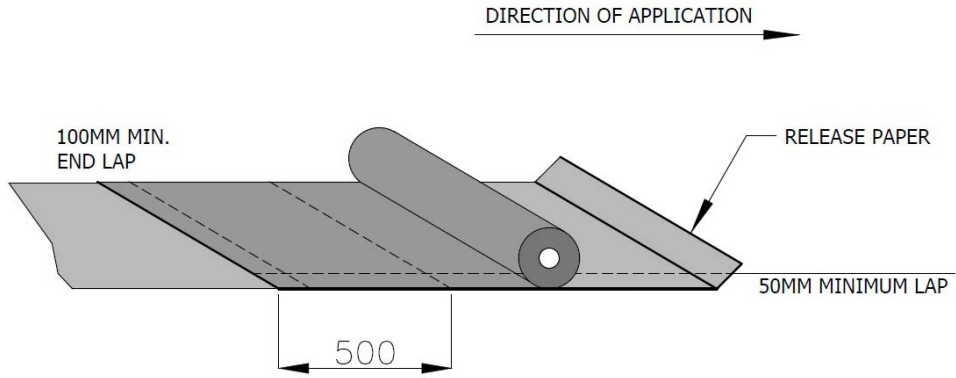

FIG. 3
- 3.4 Apply the membrane to the surface by aligning it with the line as necessary and bond the exposed self adhesive compound to the substrate using firm pressure, applied to the centre and smoothing towards the edges. (See fig. 3).